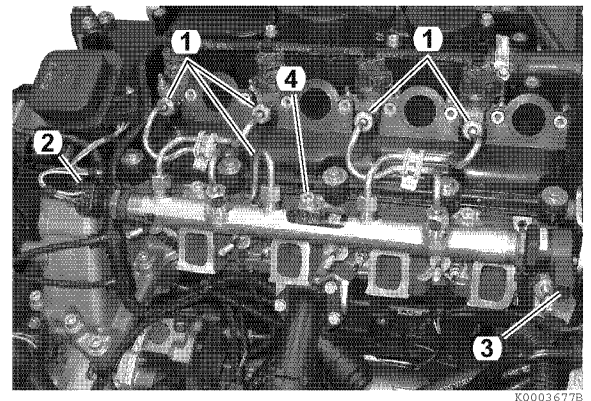

Figure 6-39
- Remove all high-pressure fuel lines (1, **Figure 6-39**). See *Remove and Install High-Pressure Fuel Lines on page 6-14*.
- Disconnect electrical connectors from fuel pressure sensor (2, **Figure 6-39**) and fuel pressure regulator (3, **Figure 6-39**).
7. Remove bolts (4, **Figure 6-39**) and remove fuel rail from engine.